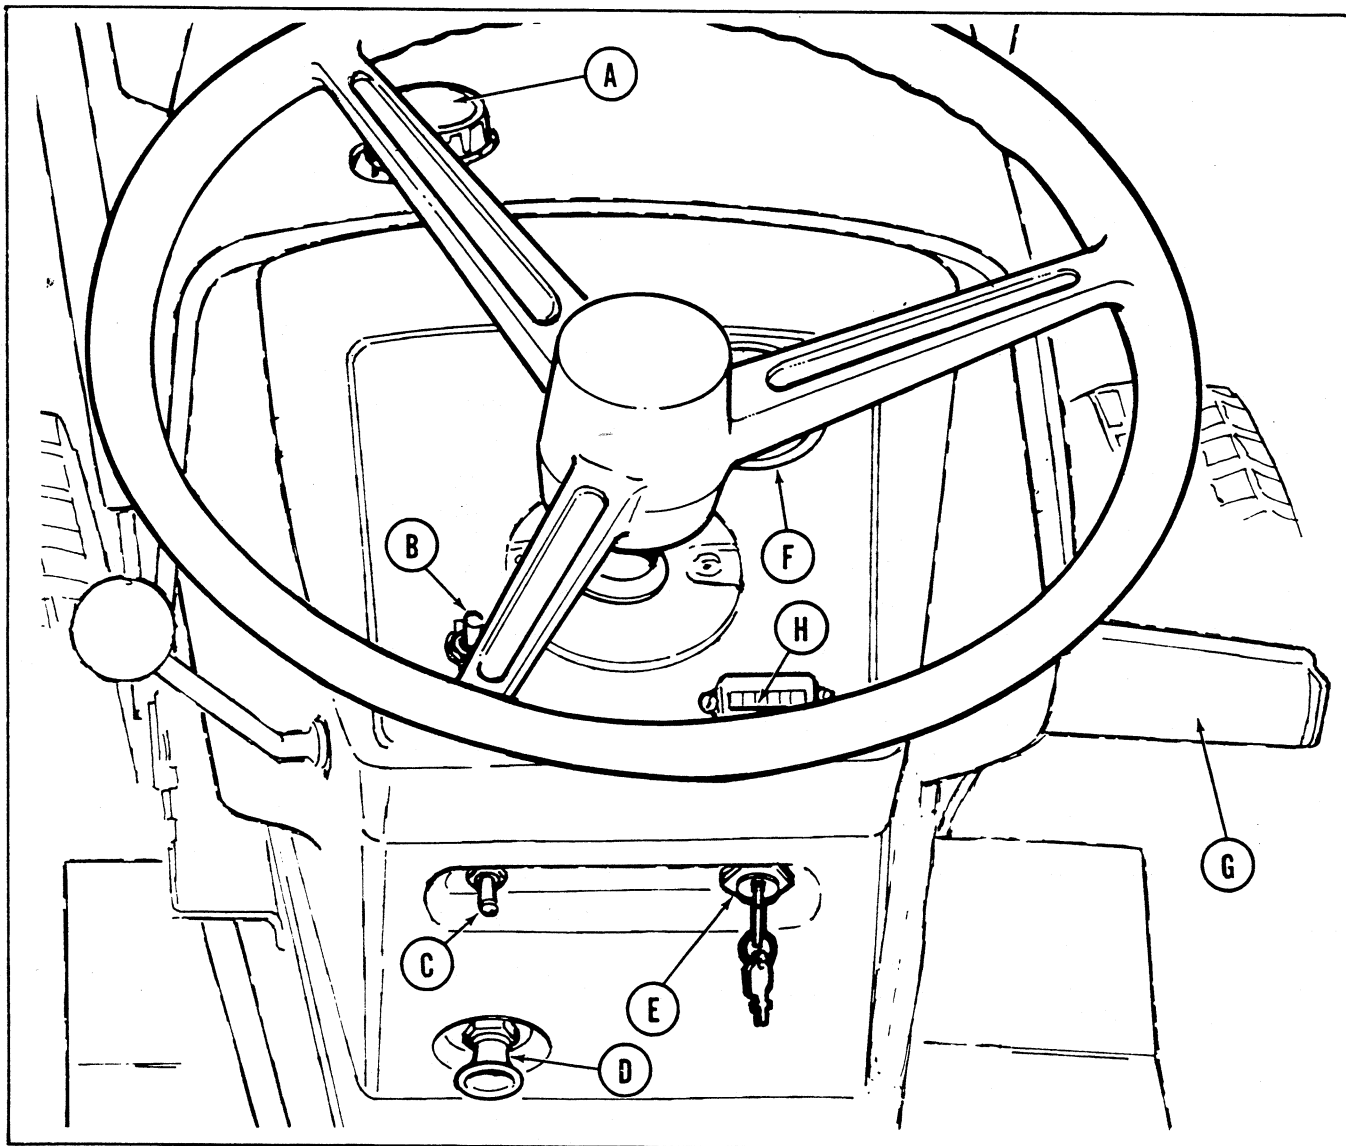

Figure 1. Tractor instrument panel as seen from the operators position on tractor seat.
Picture yourself seated on your tractor. Before starting the engine, let's learn how to understand and use the instruments and controls. The paragraphs referring to the instruments and controls are illustrated on figures 1 through 4.
IGNITION SWITCH: (Figure 1, item E) To actuate the ignition switch first insert the ignition key as shown. When the key is turned clockwise to the first position, the ignition is ON. In the ON position the lights, hourmeter, etc. will operate. Turn the key clockwise past the ON position to the START position to actuate the starter. **THE TRANSMISSION SHIFT LEVER MUST BE IN THE NEUTRAL POSITION AND THE POWER TAKE OFF CLUTCH CONTROL LEVER (S) MUST BE IN THE DISENGAGED POSITION BEFORE THE STARTER WILL ACTUATE.** Release the
CHOKE CONTROL KNOB: (Figure 1, item D) The choke control knob may be pulled out to increase the amount of fuel entering the engine for starting and cold weather warmup. When starting a cold engine in cold weather pull the choke all the way out. Some choke may be required to start the engine when the air temperature is above 70 degrees F. or while the engine is still warm from being recently run. After the engine has started, push the choke in slowly. In cold weather it may be necessary to leave the choke pulled out slightly for three or four minutes while the engine warms up. **NEVER OPERATE THE ENGINE WITH THE CHOKE OUT AFTER IT HAS HAD SUFFICIENT**
AMMETER: (Figure 1, item F) The dial pointer will move right to the "Charging" position when energy is being added to the battery and left to the "Discharge" position when energy is being drawn from the battery. The pointer will normally fluctuate to either side of the dial center.
HOURLMETER: (OPTIONAL) (Figure 1, item H) The hourmeter is designed to record the number of hours the engine runs. However, since it is electrically operated, it will run any time the ignition switch is in the **ON** position even though the engine may not be running. The hourmeter is useful in keeping accurate maintenance records, and also a convenient way of telling how much time the tractor has been used on a particular job.
FUEL GAUGE AND FILLER CAP: (Figure 1, item A) The fuel gauge indicates the amount of fuel in the tank. Before adding fuel, shut off the engine and allow it to cool. To remove the fuel gauge and filler cap for adding gasoline, turn the fuel filler gauge-cap counter-clockwise. The fuel tank holds approximately 3 gallons - enough for about 3 hours of mowing. Use leaded or non-leaded "regular" grade automotive gasoline. **CAUTION: DO NOT ALLOW LIGHTED CIGARETTES, MATCHES, ETC., AROUND ANY OPEN GASOLINE CONTAINER. DO NOT OVERFILL; WIPE UP ANY SPILLED GASOLINE.**
LIGHT SWITCH: OPTIONAL ON 10 H.P. (Figure 1, item C). The switch should be moved up to the **ON** position to turn on the tractor lights. To prevent the lights from being turned on by unauthorized persons, the ignition switch must also be in the **ON** position for the lights to operate. To turn the light off, push the light switch down to the **OFF** position. **DO NOT OPERATE THE LIGHTS FOR LONG PERIODS OF TIME (MORE THAN 20 MINUTES) WHEN THE AMMETER READS DISCHARGE OR THE BATTERY MAY DISCHARGE ENOUGH SO IT WILL NOT START THE ENGINE.**
POWER LIFT SWITCH: (OPTIONAL) (Figure 1, item B) The power lift switch controls the electrically operated power lift unit. Push the toggle switch forward when you wish to raise a front center or rear mounted attachment. Pull it back toward you to lower the attachments. The power lift will stop and hold in any position when you release the toggle switch. The height indicator (Figure 6, item A) on the left side of the tractor can be used to determine what position the lift is in. The lift motor will ratchet when it has reached the end of its travel. Ratcheting is not harmful to the unit, but you should release the toggle switch as soon as ratcheting begins to prevent unnecessary wear. If the motor is allowed to ratchet for an extended period of time, a circuit breaker will open, disconnecting power to the lift motor. It will automatically reset after about a minute.
CLUTCH AND BRAKE PEDAL: (Figure 1, item G) Depressing the pedal will first disengage the tractor drive clutch. As you continue to depress the pedal, the brakes will be applied to stop the tractor.
The diagram printed on the tractor frame shows the location of each position. To shift the transmission into reverse or second, pull the shift lever back toward you, then push it all the way to the right or left into the desired position. To shift into first or third, push the shift lever forward and move it left or right all the way to the desired position. Do not attempt to move the shift lever unless the foot pedal (Figure 1, item G) is depressed and tractor motion is stopped. The shift lever must be in the neutral **START** position for the engine to start.